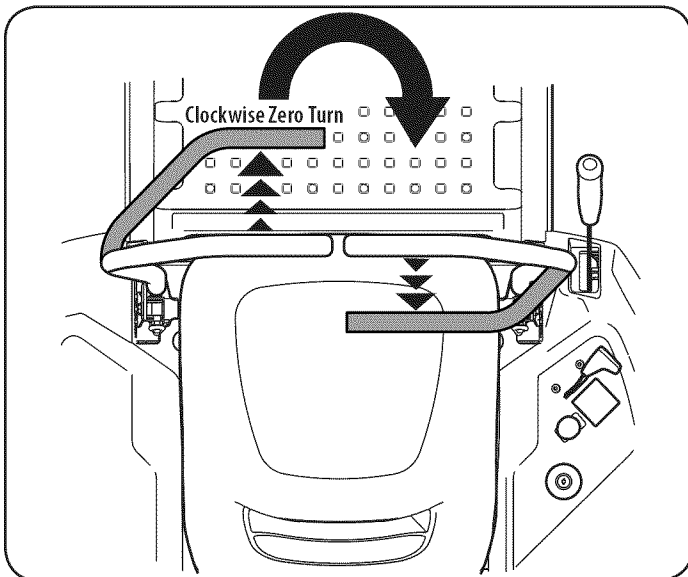

Figure 16
2. To turn clockwise, move the left control lever forward while simultaneously moving the right control lever rearward. See Figure 16.